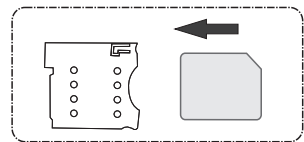

Fig. 2-3
① Please insert the SIM card in the shutdown state of panel, the side with the disk facing down, then push the SIM card into the slot, as Fig. 2-3.
② TF card installation: The TF card is used for program upgrade. After powering on, a slow "beep" sound starts the automatic upgrade. When the "beep" sound changes to a long beep, the upgrade is completed. At this time, remove the TF card.